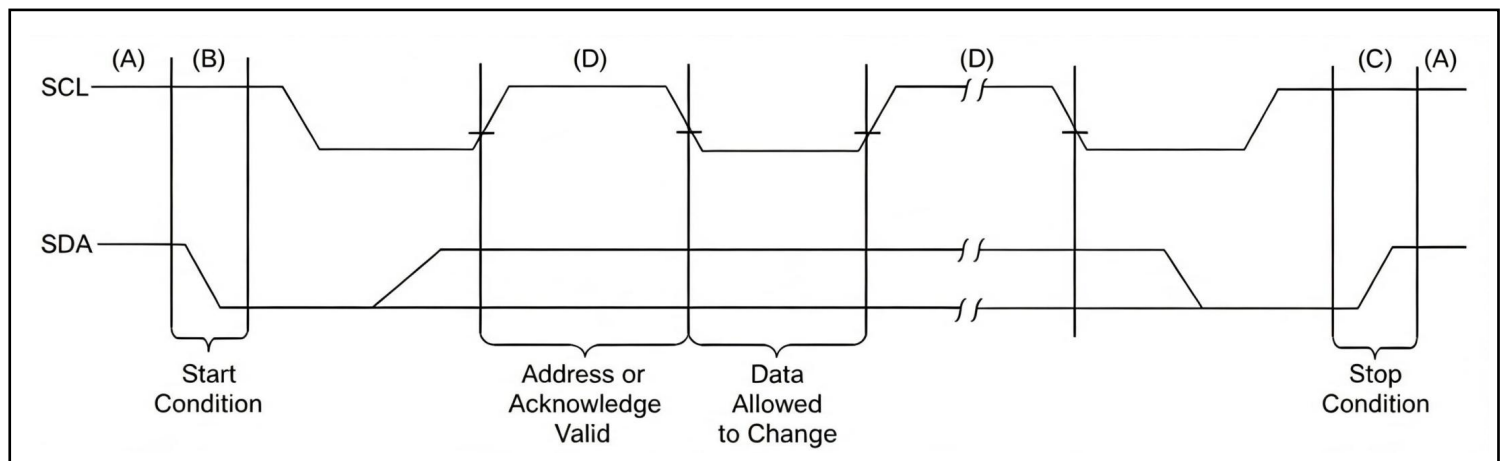

FIGURE 2: DATA TRANSFER SEQUENCE ON THE SERIAL BUS
- Accordingly, the following bus conditions have been defined (Figure 2).